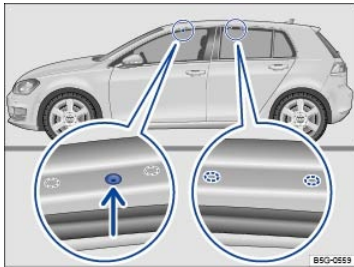

Fig. 155 Mounting points for the base carrier and roof rack.
The front mounting holes are on the underside of the roof frame. They are sealed with plastic screws that must be removed before installation ⇒ *Fig. 155* (magnified view on left). The rear markings for the base carrier are on the underside of the roof frame ⇒ *Fig. 155* (magnified view on right).
- Secure the roof rack base carrier only at the attachment points shown in the illustration ⇒ *Fig. 155*.